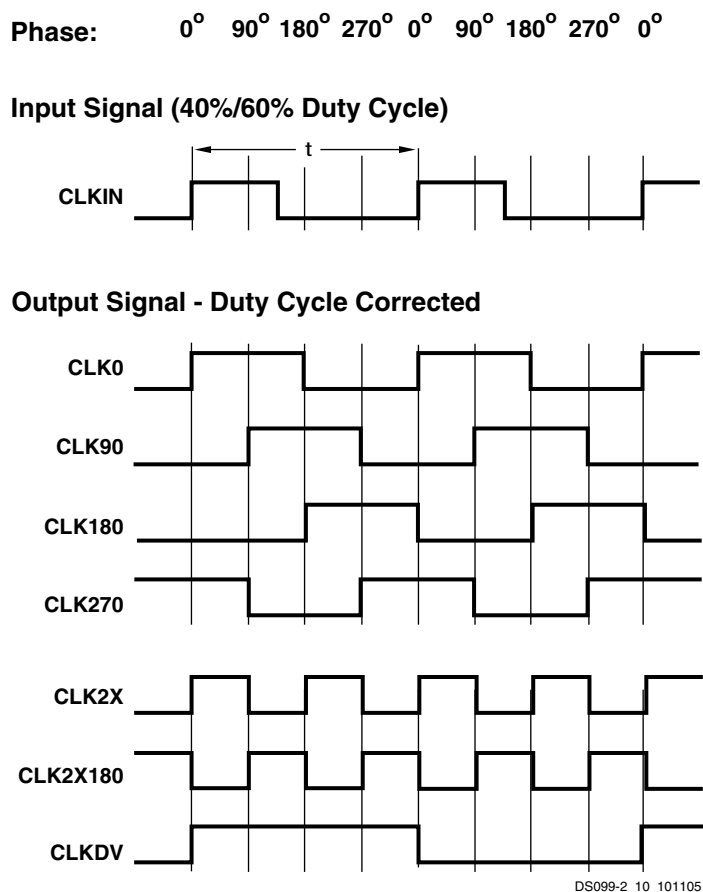

Figure 44: Characteristics of the DLL Clock Outputs
In addition to CLK0 for zero-phase alignment to the CLKIN signal, the DLL also provides the CLK90, CLK180, and CLK270 outputs for 90°, 180°, and 270° phase-shifted signals, respectively. These signals are described in Table 28, page 48 and their relative timing is shown in Figure 44. For control in finer increments than 90°, see Phase Shifter (PS).